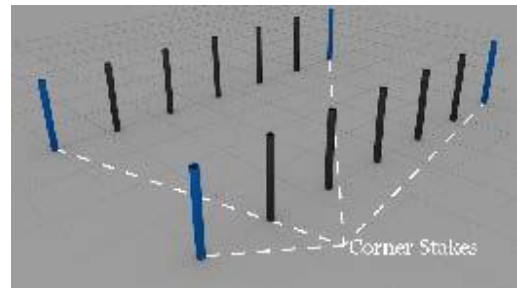

Fig 1.1 Ground Stakes
- Drive Corner stakes and then drive rest of stakes **4 ft. centers** (Fig 1.1).